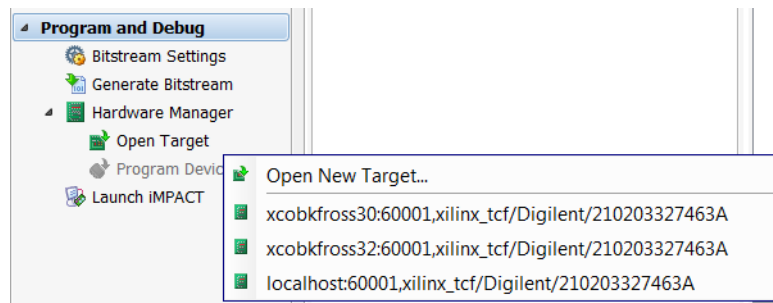

Figure 2-4: Using the Flow Navigator to Open a Hardware Target
- Use the **Open Target** selection under **Hardware Manager** in the Program and Debug section of the flow navigator of the Vivado IDE to open new or recent hardware targets (see Figure 2-4).